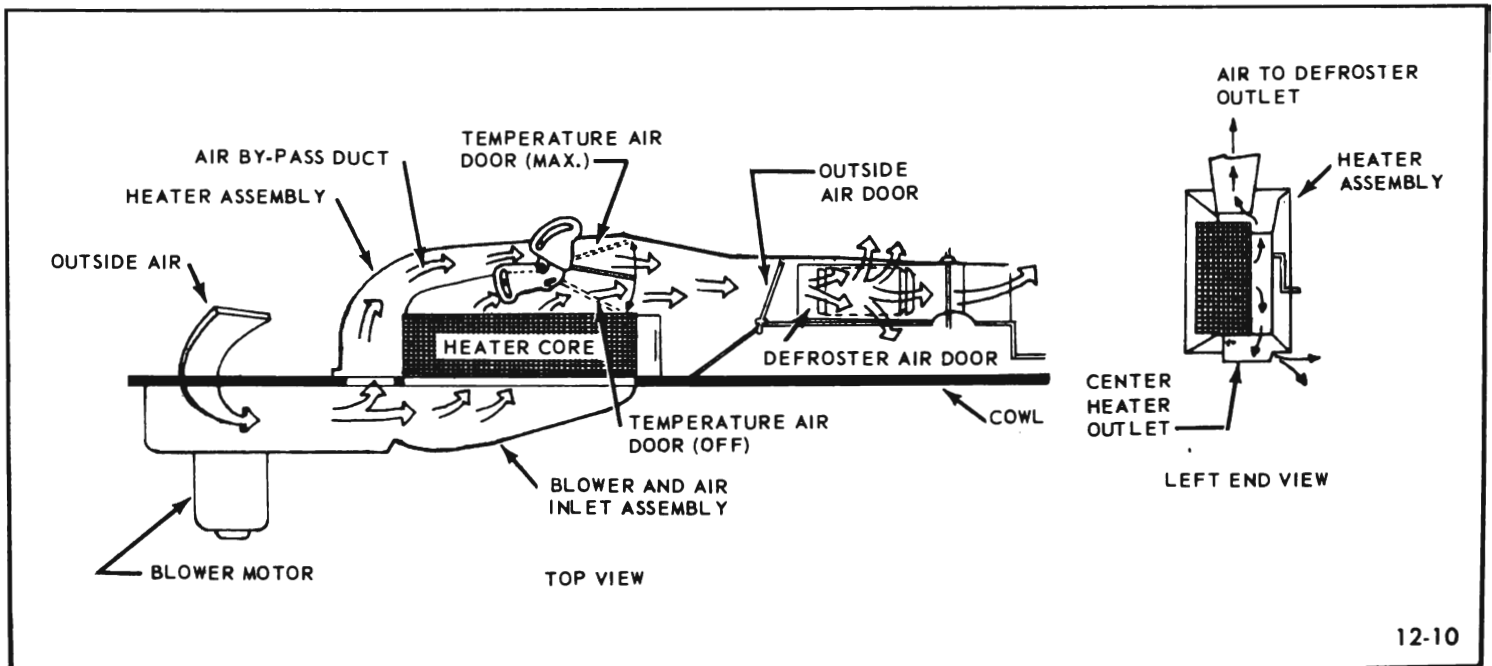

Figure 12-13 Heater System Air Flow
assembly (see Figure 12-13) houses the heater core and the doors necessary to control mixing and channeling of the air. Air entering the heater assembly divides into two channels: (1) through the heater core and (2) through a by-pass around the heater core. The ratio of the mixture of heated to unheated air is controlled by the temperature door. An outside air inlet door initiates the air flow through the heater assembly. A defroster door controls the amount of air directed through the defroster outlets. The defroster door may be positioned to direct all air to the defroster outlet or all air to the floor outlet.